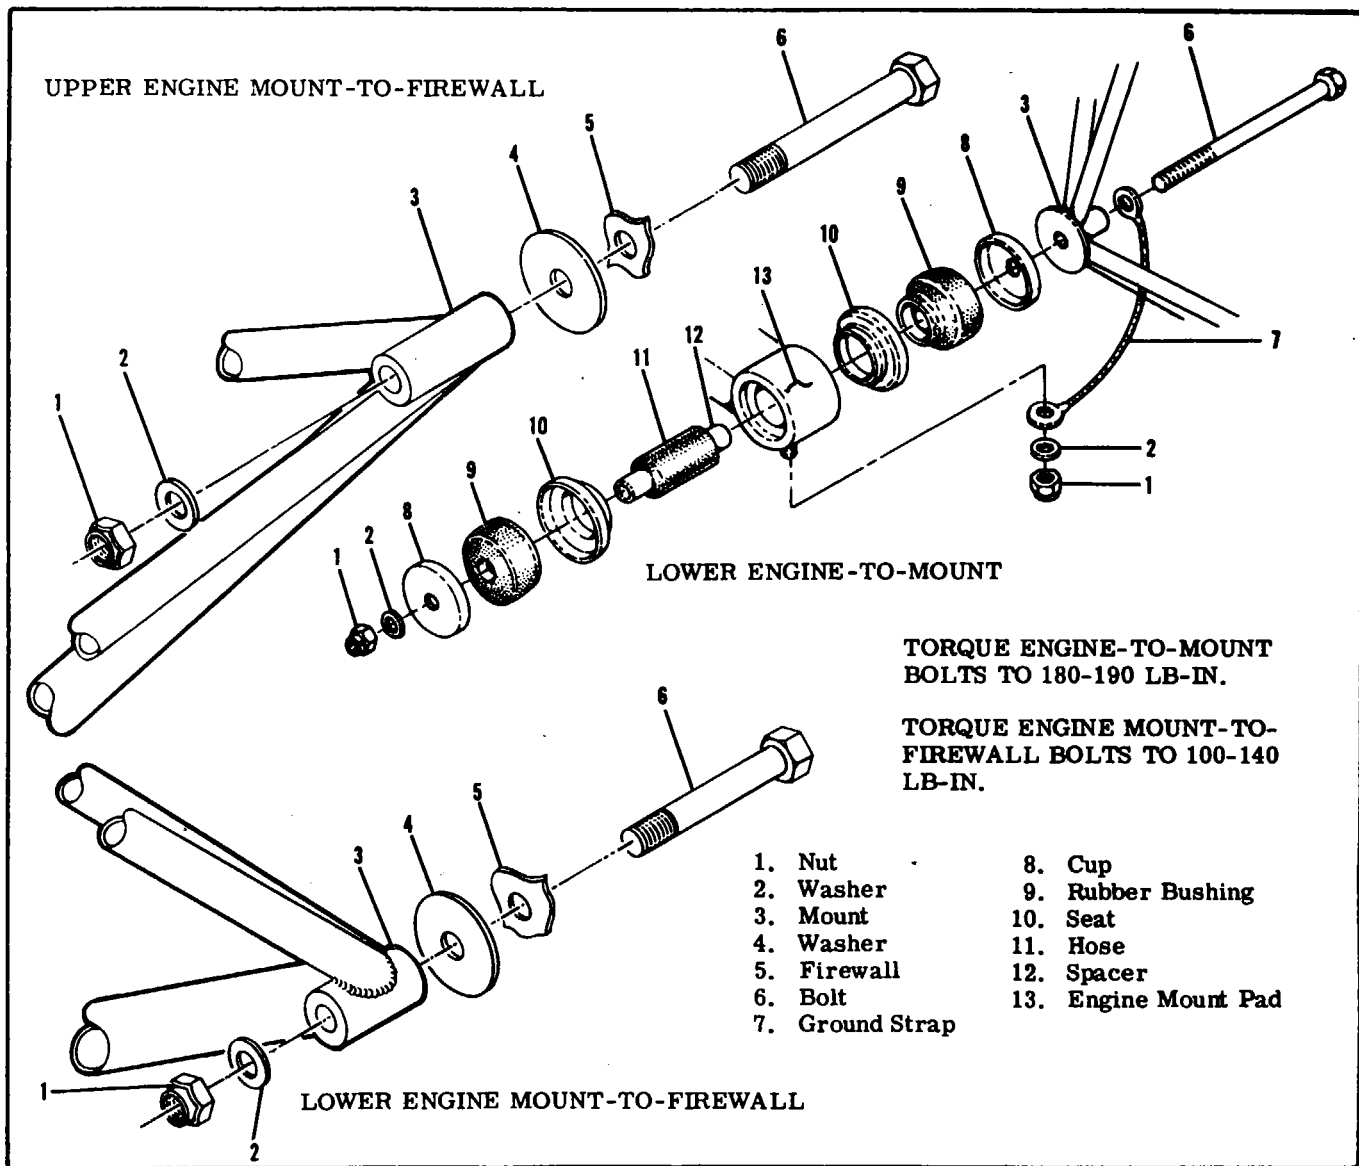

Figure 11-2. Engine Mount Details
- c. Install shock-mounts as shown in figure 11-2 and install engine-to-mount bolts. Be sure ground straps are in place at lower engine mount. Tighten engine-to-mount bolts to torque value shown in figure 11-2.
11-28. **REMOVAL AND INSTALLATION.** Removal of the engine mount necessitates removal of the engine and nose landing gear, followed by removal of the bolts attaching the engine mount to the fuselage structure. When installing an engine mount, tighten mount-to-fuselage bolts to the torque value listed in figure 11-2. Install landing gear as outlined in Section 5. The engine, engine mount and nose gear may be removed from the aircraft and then engine and nose gear removed from the mount.